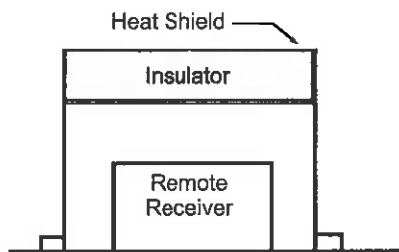

Figure 2
2. In order to prevent the Remote Receiver from overheating, put a Heat shield (option item) above the Remote Receiver. See Figure 2.